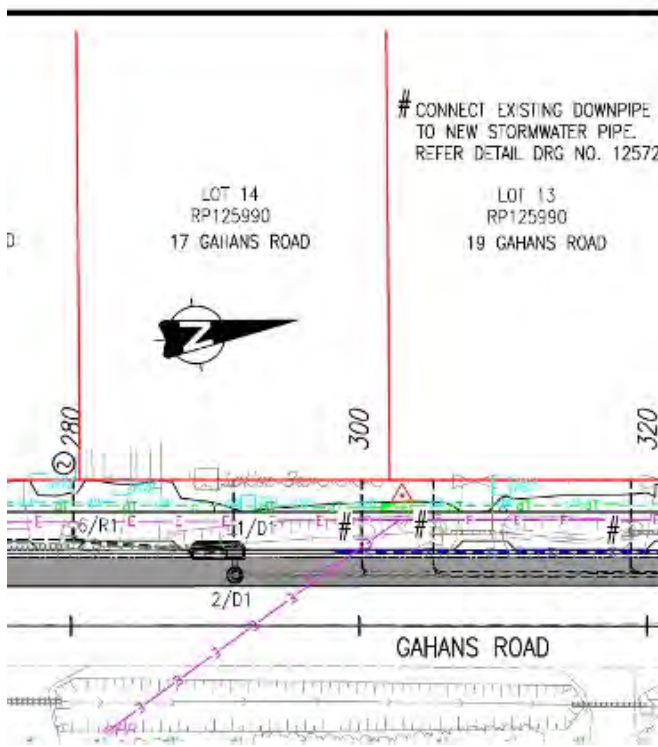

Figure 4.
- The design drawing featuring 0.5 m of pipe from an RGU 1/D1 to access hole 2/D1 (Figure 4),